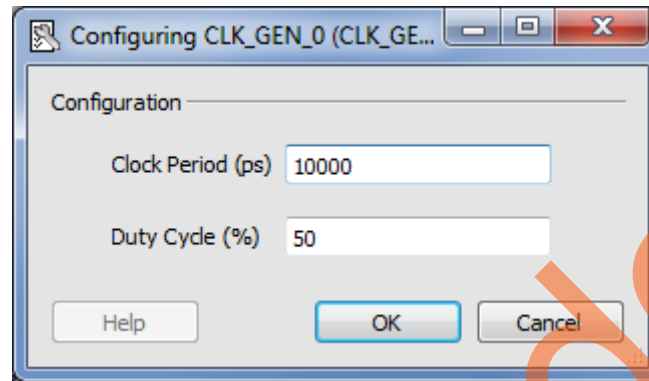

Figure 20. CLK_GEN Configuration
8. Open the **Clock_Generator** configurator by double-clicking the CLK_GEN_0 in the SmartDesign canvas. Ensure that the following information, as shown in Figure 20, is set in the CLK_GEN_0 configurator and click **OK**:
The clock generator period is set to 10000 ps to generate this 100 MHz clock, as shown in Figure 20. The System Clock 10000 ps equal is to 100 MHz.